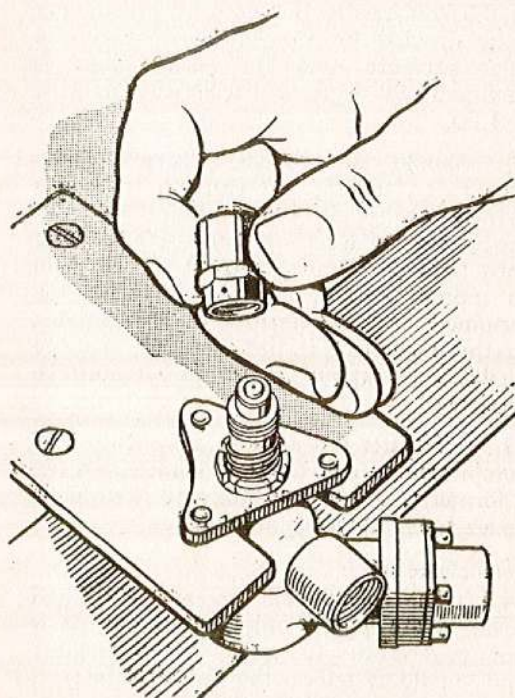

Fig. 9. Fitting the atomizer
28. Next, add the lock washer retaining spring and the spring locking ring. Fit the atomizer into the end of the valve housing, and make secure with the sleeve nut (fig. 9). When the nut is tight drill through the lock ring groove in the sleeve nut and into the valve housing, using a No. 60 (0.040 in. dia.) drill. The depth of drilling in the valve body must be 0.050 in. It is recommended that a stop drill is used as it is most important that this